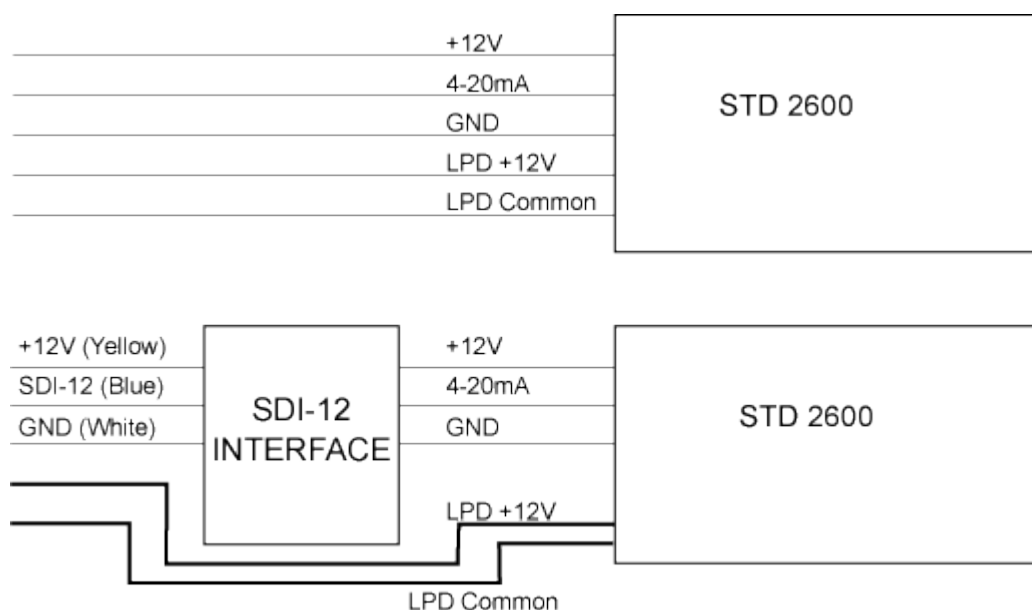

Figure 9. Standard 4-20mA version (top) and SDI-12 version (bottom)
- Apply continuous +12 vdc to the LPD supply wires (Figure 9.).
- Apply switched 12vdc to the sensor wires (figure 9.).